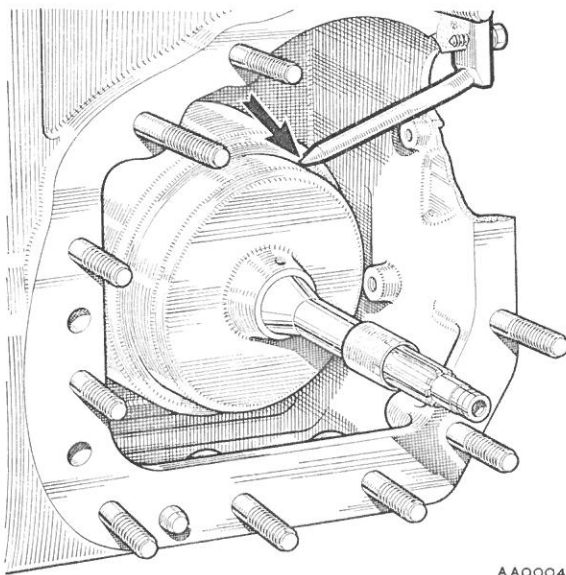

Fig. Fa.19
- (1) Remove the engine and transmission from the car, see Section Aa.3.
- (2b) Remove the converter and converter housing as detailed in Section Aa.4, items (1) to (11) and (13).
- (3) Unscrew and withdraw the gear selector rod and remove the front cover (the connecting bobbin is pressed into the cover).
- (4) Remove the governor control assembly from the transmission case and fit Service tool 18G 1097 (see Fig. Fa.19).
- (5) Remove the securing nuts and pull the auxiliary pump and governor assembly from the transmission case.
- (6) Remove the dowel bolt and pull out the auxiliary pump filter outlet pipe.
- (7) Pull out the auxiliary pump outlet and the forward clutch apply pipes.
- (28) Position the plastic sleeve over the rings on the forward clutch shaft and refit the forward clutch unit. Fit Service tool 18G 1097 to retain the correct position of the forward clutch unit (see Fig. Fa.19).
- (29) Fit new seals to the three valve block bobbins and fit them into their locations in the transmission casing.
- (30) Reassemble the valve block and servo unit as an assembly, fitting new seals to the inter-connecting pipes.
- (31) Refit the valve block and the servo unit as an assembly into the transmission case, ensuring correct location of the valve block with the bobbins